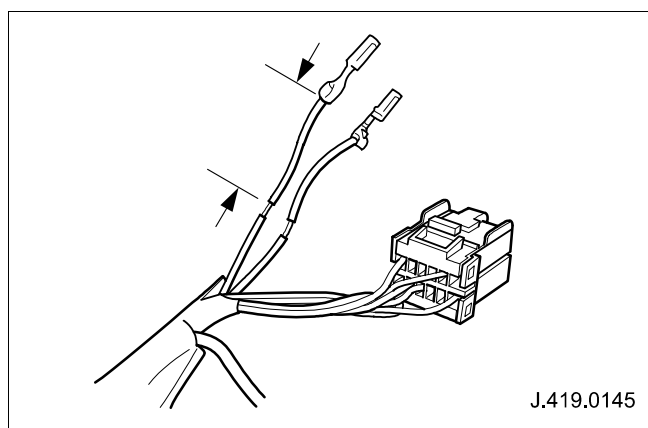

Fig. 3
- 6 Cut approximately 30mm from rear of electrical terminal. (See Fig. 3)